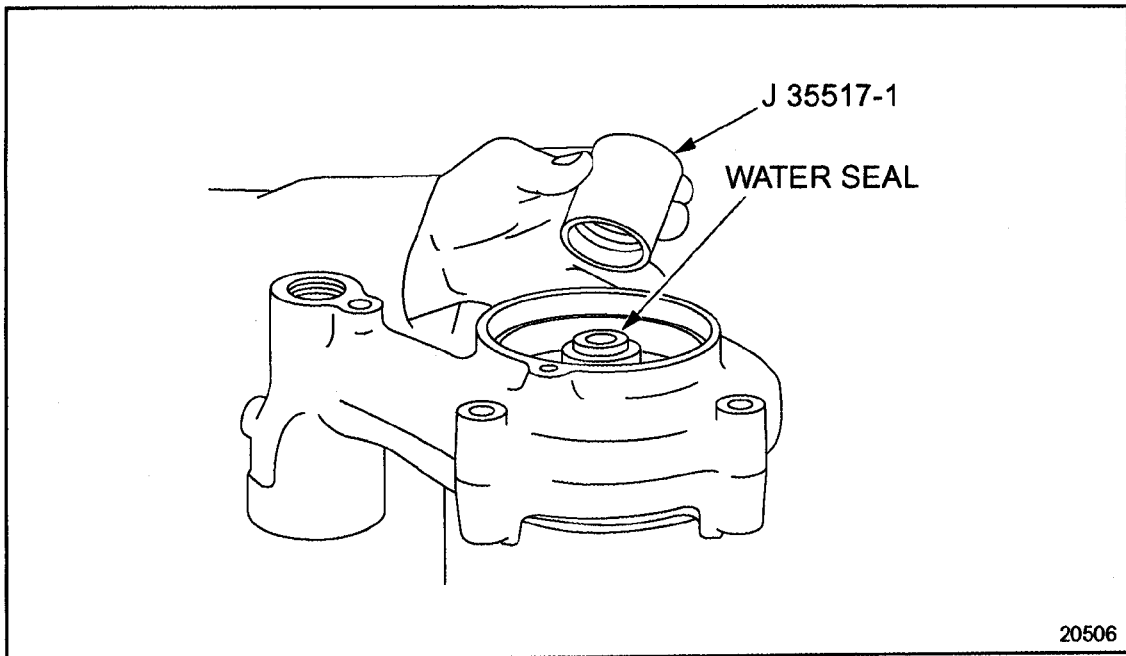

Figure 4-58 Water Seal Installation (FM)
17. Position tool J 35517-1, part of tool set J 35988-B, over the water seal. See Figure 4-58.